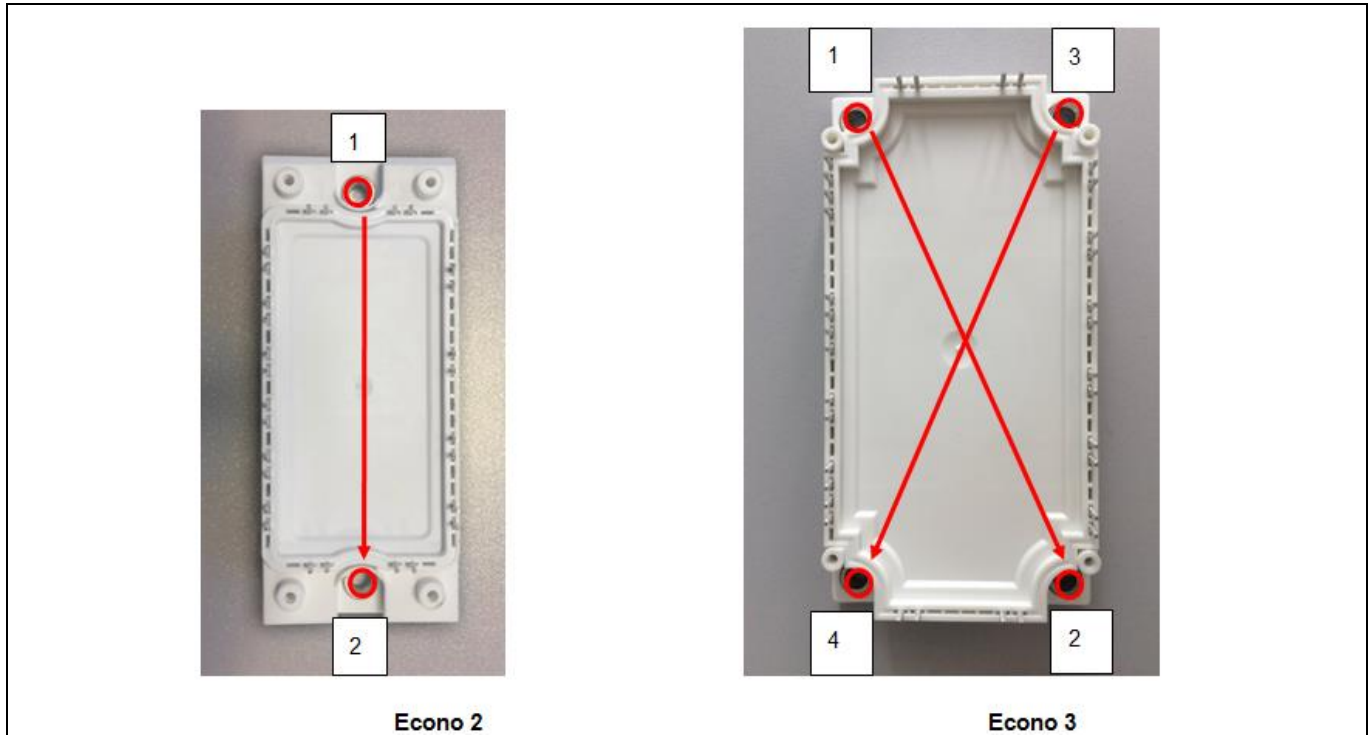

Figure 13 Screw sequence for module mounting
For optimal thermal contact of the module on the heat sink, the following procedure is recommended when tightening the fastening screws - 1 to 4 for Econo3 and 1 to 2 for Econo2 (Figure 13).
3. For the Econo3, tighten all screws crosswise using a torque of approximately 0.5 Nm in the following sequence: e.g. screw No. 1 - 2 - 3 - 4 (see Figure 13).